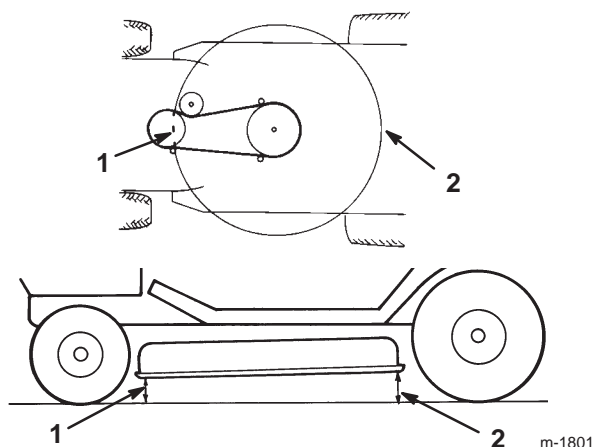

Figure 44
10. Check the front-to-rear blade slope by measuring between the bottom of the mower (front center and rear center) and the flat surface (Fig. 44). If the front of the mower is more than 5/8 in. (16 mm) lower than the rear of the mower, adjust it; refer to steps 11 through 17.